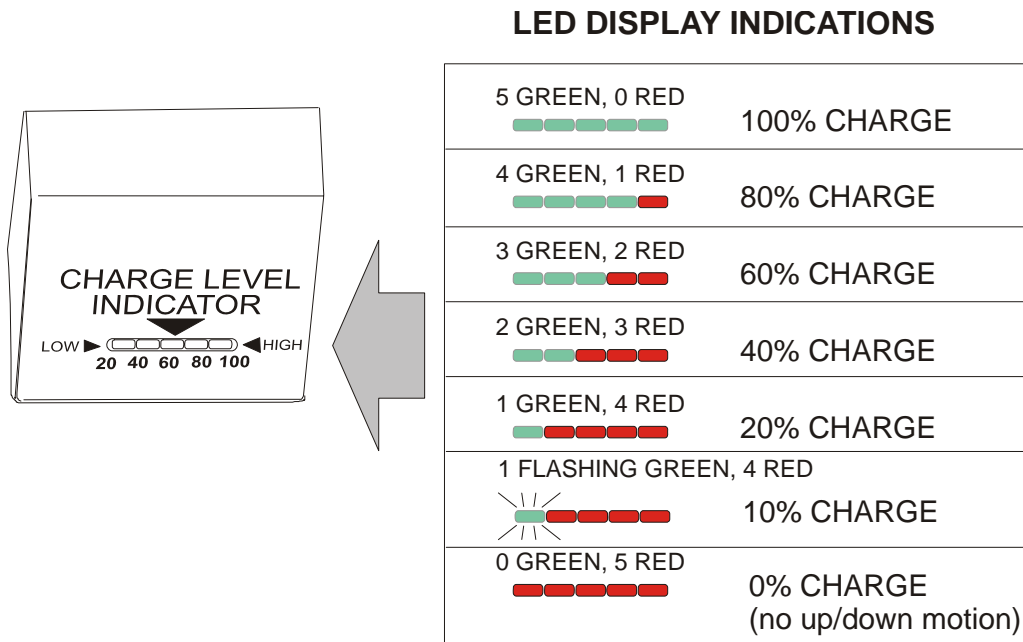

Figure 3-9. Battery Charge Level Indicator LED Display
To facilitate this process the table is equipped with a 5-Segment LED Indicator designed to inform the operator of the State of the charging system and the Level of Charge currently available (see Figure 3-9).
As charging progresses, the LEDs will one-by-one, turn from Red to Green following the sequence shown in Figure 3-9. When charging is underway, or where the battery is steadily discharging during normal use, the display will be Steadily Illuminated.
2. If the Indicator shows the battery is ready, by conforming to one of the allowable patterns illustrated in Figure 3-9:
3. If any LED segment is yellow, or the display exhibits a pattern that fails to conform to one of the allowable patterns illustrated in Figure 3-9, an *Error Condition* exists.